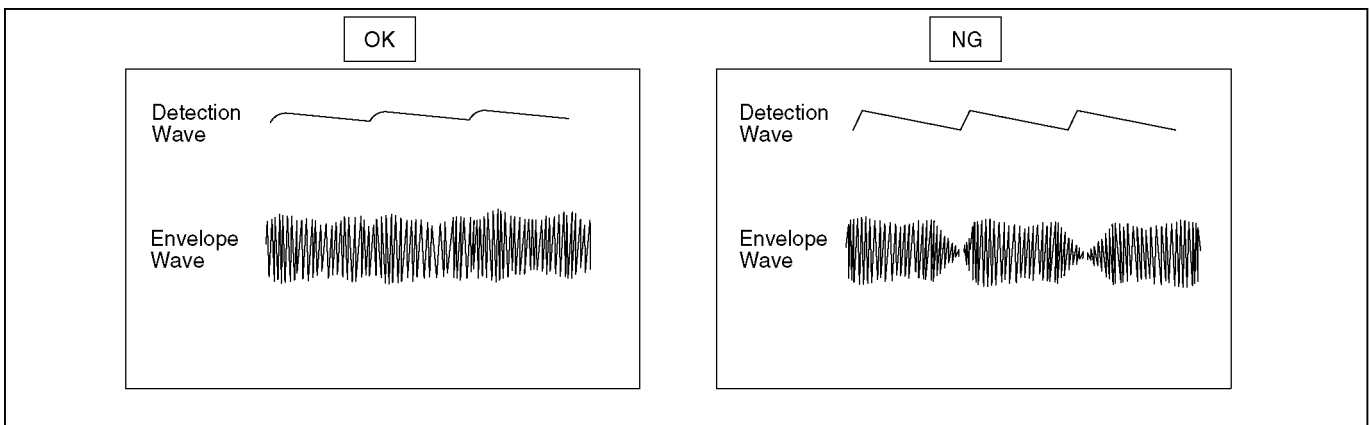

Fig. D4
4. The post is adjusted with the post driver(VFK1899) so that recycles the normal tape which recorded NTSC signal and the detection wave-link become a flat as shown in Fig. D4.